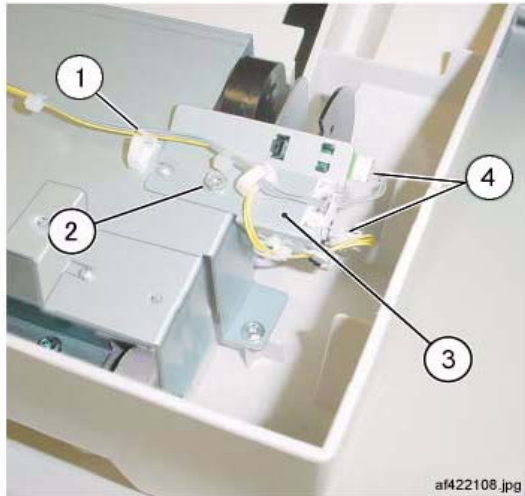

Figure 1 Removing the Stacker Stack Sensor Assembly
7. Remove the Stacker Sensor Assembly (Figure 1):